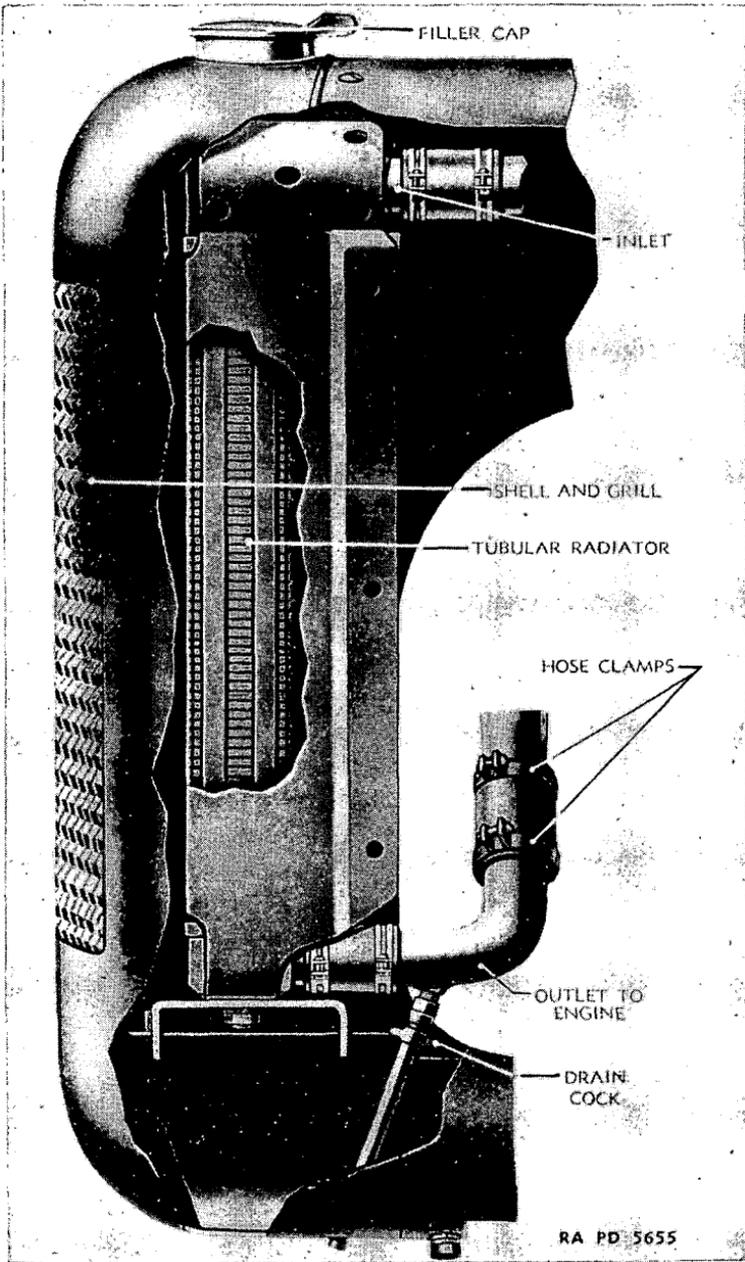

FIGURE 17.—Radiator—sectional view.
**48. Description.**—*a. Radiator.*—The water cooling system (fig. 17) incorporates a tubular type one-piece radiator, a radiator fan, and a centrifugal water pump. The capacity of the cooling system is two gallons. The system may be drained by opening the drain cock at the bottom of the water manifold on the left-hand side of the radiator and the drain cock on the left-hand side of the engine block in front of the carburetor.